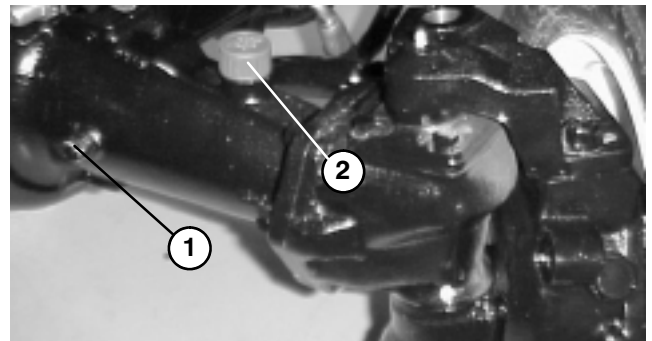

Figure 19
2. Remove a check plug (Fig. 19) from one end of axle and make sure lubricant is up to bottom of hole. If level is low, remove the fill plug (Fig. 19) and add enough lubricant to bring the level up to the bottom of the check plug holes.